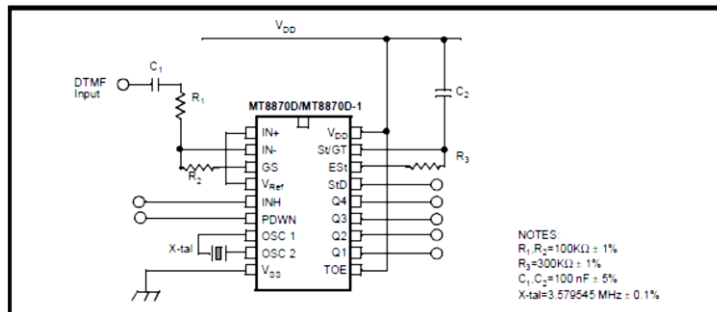

Figure 10 - Single-Ended Input Configuration
MT8870D AC Electrical Characteristics - VDD=5.0V ±5%, VSS=0V, -40°C ≤ To ≤ +85°C , using Test Circuit shown in Figure 10.
Circuit shown in Figure 10.
12. Referenced to Fig. 10 input DTMF tone level at -25dBm (-28dBm at GS Pin) interference frequency range between 480-3400Hz.
AC Electrical Characteristics - $V_{DD}=5.0V\pm 5\%$, $V_{SS}=0V$, $-40^{\circ}C \leq T_o \leq +85^{\circ}C$, using Test Circuit shown in Figure 10.